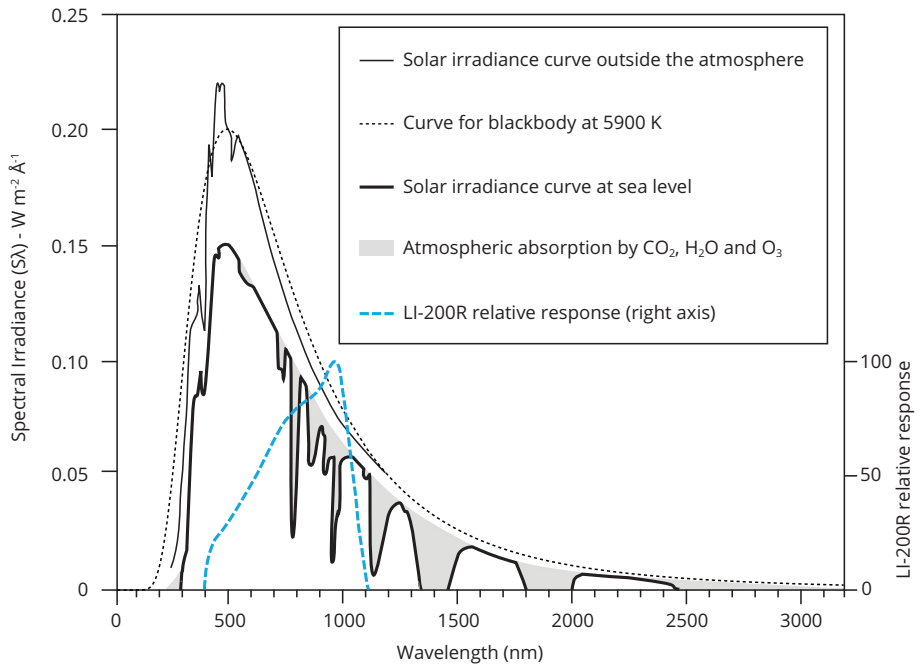

Figure 5-3. Spectral response of the LI-200R Pyranometer along with the energy distribution in the solar spectrum1.
**Important Note:** *The LI-200R should only be used to measure unobstructed daylight. Measurements under vegetation, cloud cover, artificial lights, in a greenhouse, or of reflected solar radiation may not be accurate.* The spectral response of the LI-200R does not include the entire solar spectrum (Figure 5-3). Therefore, it must be used under lighting conditions that are the same as those under which it was calibrated.